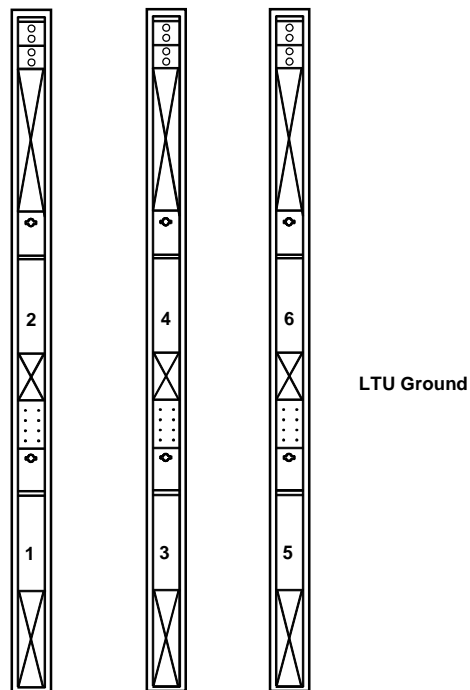

Fig. 23-2 LTU/MDF Cable Connections to the LTU
The six connectors on the LTU end of the cables are labelled 1 through 6 and should be installed as shown in Figure 23-2. Connectors 1 & 2 go to the first LTU, connectors 3 & 4 go to the second LTU, and cables 5 & 6 go to the third LTU.
4. Connect the other end of the LTU/MCCB ground cable to the LTU ground connector on the furthest left LTU (see Fig. 23-2).